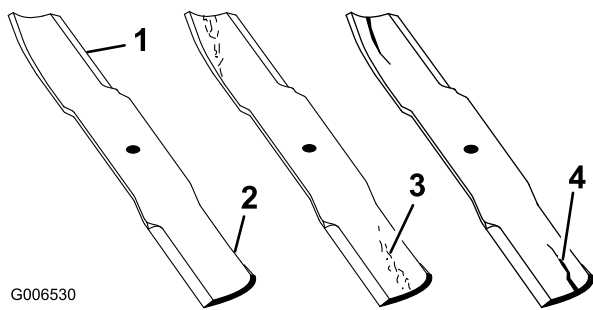

Figure 96
1. Inspect the cutting edges (Figure 96). If the edges are not sharp or have nicks, remove and sharpen the blades. Refer to Sharpening the Blades.
2. Inspect the blades, especially the curved area (Figure 96). If you notice any damage, wear, or a slot forming in this area (Figure 96), immediately install a new blade.